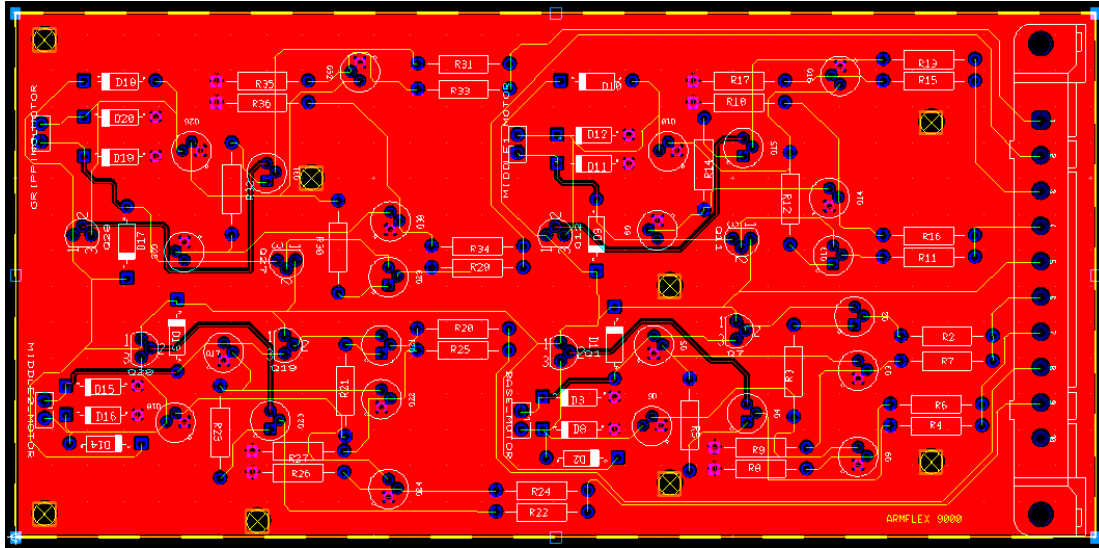

Figure 4.1
- Figure 4.1
power flow from right to the left. The board has 10 connectors, 8 for motor control, 1 for power and 1 for a ground connection. The cost of this PCB board components is \$21.74. The Ultiboard model is shown in Figure 4.1. A CAD model of the top and bottom on the PCB are shown in Figure 4.2 and Figure 4.3 respectively.